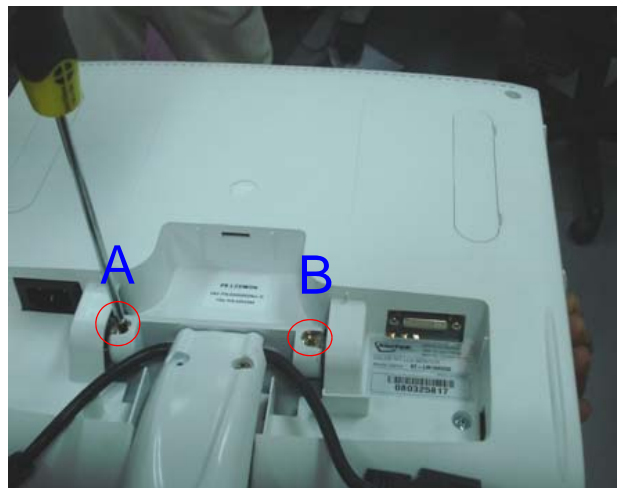

Figure 8-5 LCD monitor neck
9) Loosen the two screws of (A,B) of LCD monitor Arm. Refer Figure 8-5 on page 8-6